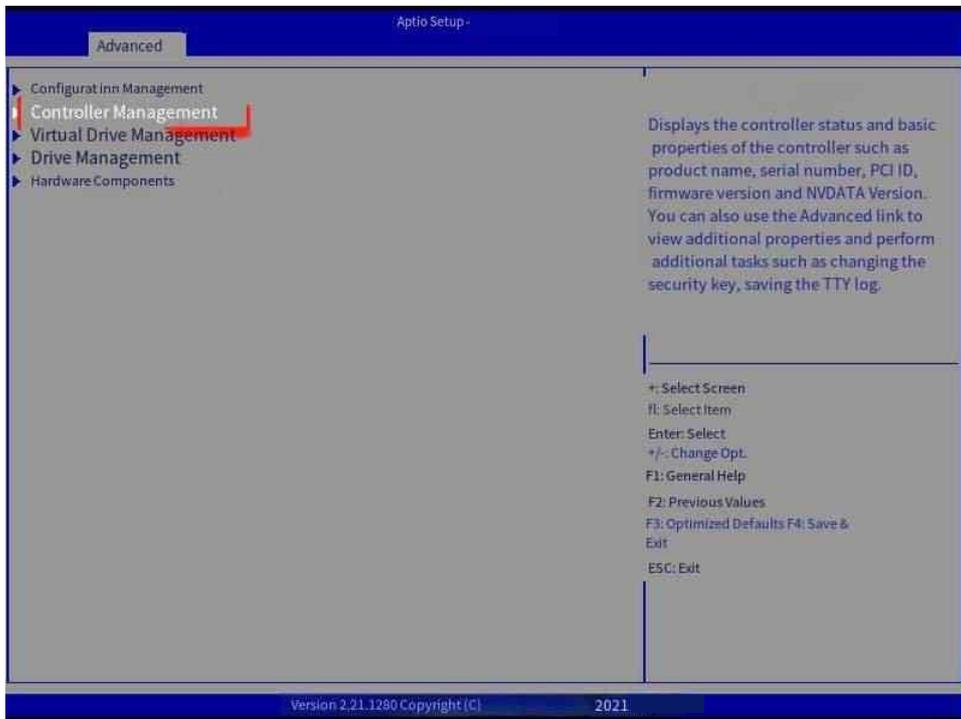

Figure 7-52 RAID main menu
Step 1: On the home screen, select Main menu and press Enter. Select Controller Management (Figure 7-52).